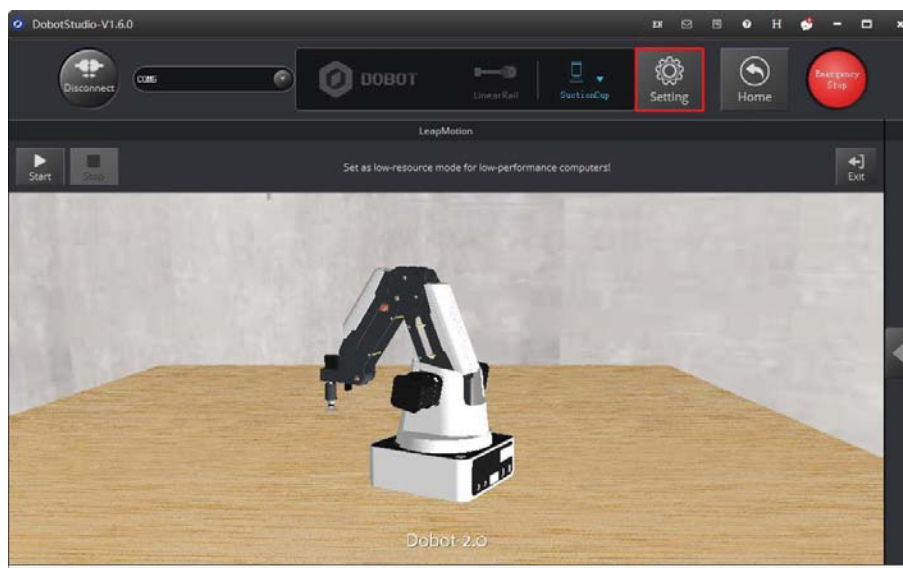

Figure 5.108 Click Setting
Step 3 Click **Setting** on the **DobotStudio** page, as shown in Figure 5.108.